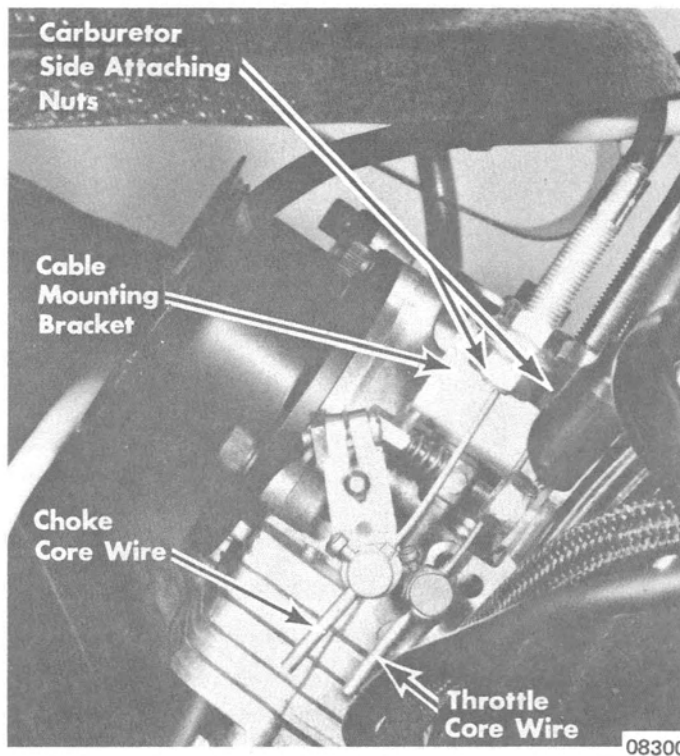

Figure 2A. Carburetor - Mark II (Chassis Serial No. 3787640 and Above)
2. Loosen choke cable anchor screw on carburetor linkage. (Figure 2A, 7 or 8)
3. Remove "carburetor side" (inside) attaching nut from choke cable. (Figure 2A, 7 or 8)
2. Install choke cable thru carburetor mount bracket and attaching nut and into choke cable anchor. Tighten attaching nut. (Figure 2A, 7 or 8)